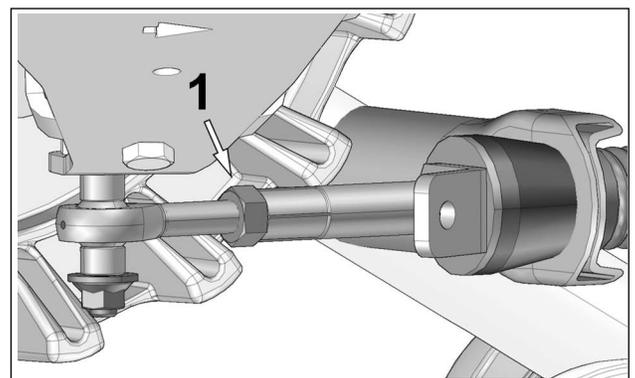

Figure 6
- When angle of attack is correctly set, tighten the jam nut (1) back against the stabilizing arm to 40 Nm [30lb•ft] of torque. See Figure 6.